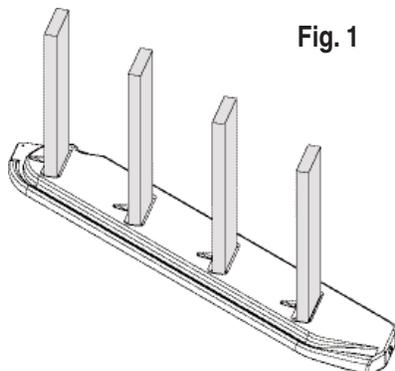

Fig. 1
1. Place the left (L) step side rail on a flat work surface. Insert one 2" x 6" x 21" (Bronze) or 2" x 6" x 15½" (Gold) top step into the top hole.
2. Insert three 2" x 6" x 23½" (Bronze) or 2" x 6" x 18" (Gold) standard steps into the remaining holes until they are flush with the outside of the side rail. **(Fig. 1)**